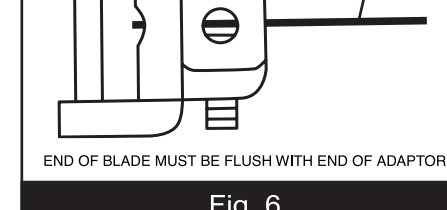

Fig. 6
- Remove the other setscrews just enough to slide one adaptor onto each end of the blade as shown. (Fig. 6)